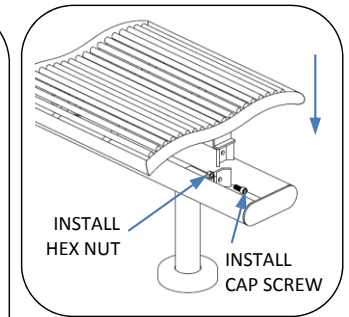

Fig. 3 – Seat install
2. Using hardware provided, insert cap screw through adapters and install the hex nut on the inside of the bracket. See Fig. 3. Repeat for other side.